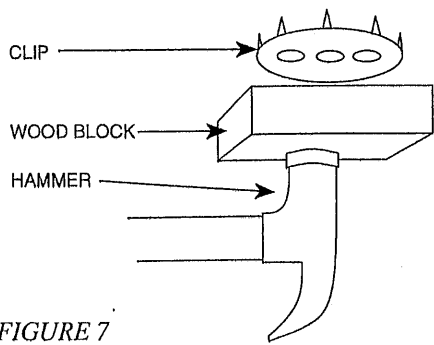

FIGURE 7
**B.** Use a wood block to drive the clips into the ceiling as shown in Figure 7. Locate one clip between the two lines marked for each wheel and center one clip over each line marked where the wings join the Landing Gear decal.